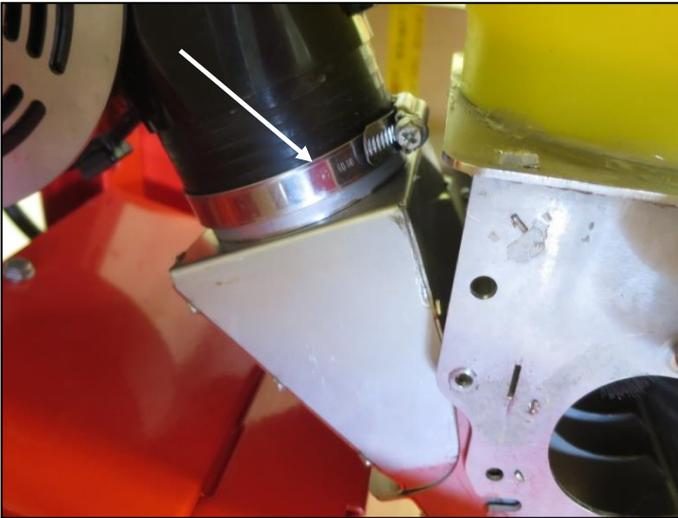
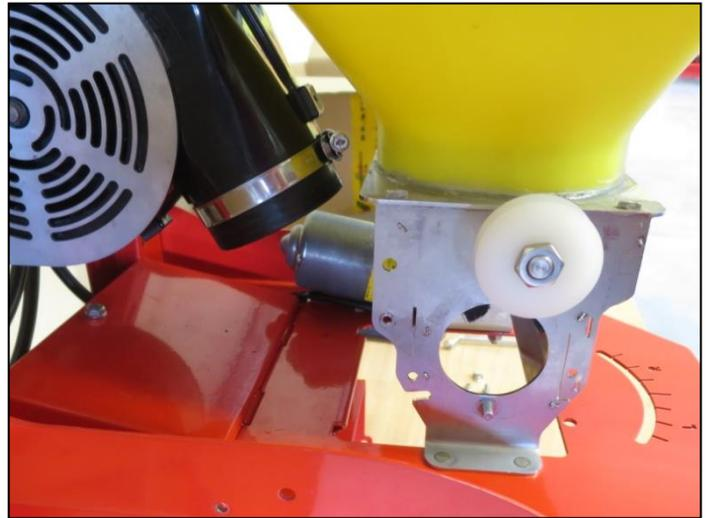

Fig.: 17
Fig.: 18
- Loosen the hose clamp marked in Fig.: 17 to remove the transition piece from the metering unit to the blower fan (Fig.: 18). Then remove the hose clamp from the blower fan.